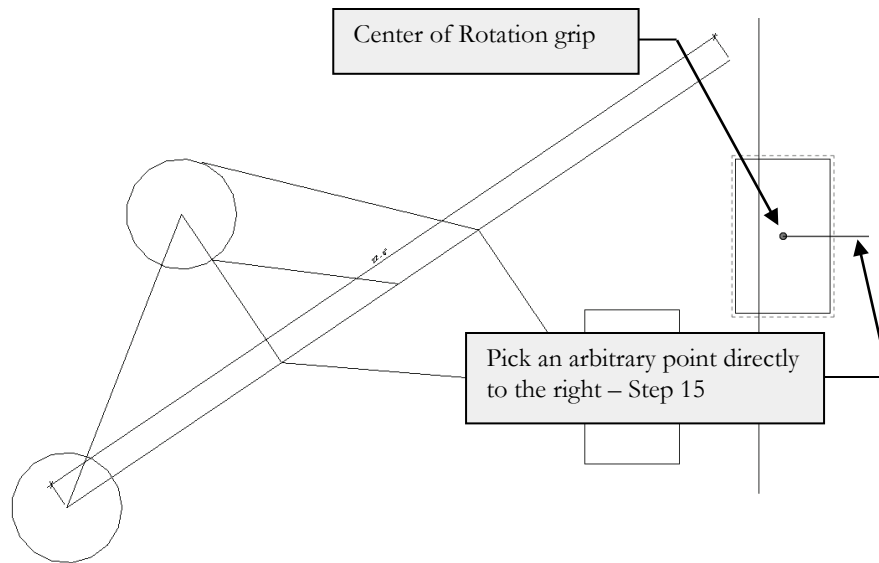

FIGURE 3-3.6 Rotate tool; first step – select lines and then click Rotate
Notice that the “Center of Rotation” grip, by default, is located in the center of the selected elements. This is the point about which the rotation will occur. See Figure 3-3.6.
15. Pick a point directly to the right of the “Center of Rotation” grip; this tells Revit you want to rotate the rectangle relative to the horizontal plane (Figure 3-3.6).